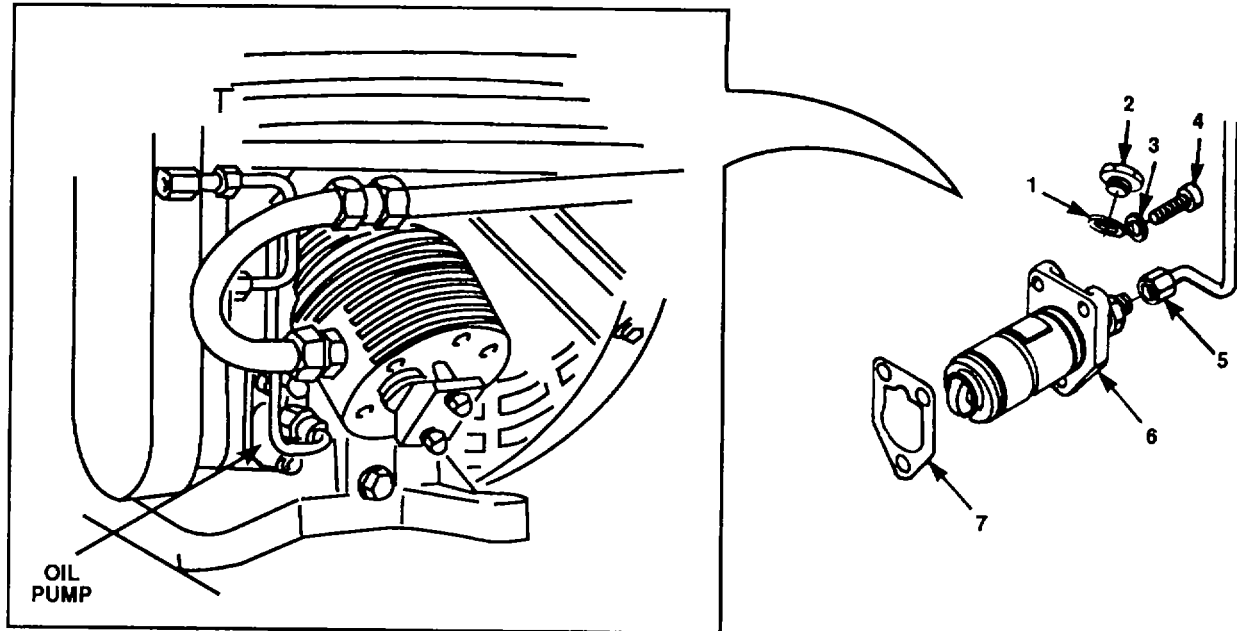

Figure 4-10. Lube Oil Pump
- a. Lube oil pump. (Figure 4-10).
1. Loosen tube connection (5) to separate oil supply tube from lube oil pump (6).
2. Place suitable oil catch container beneath oil supply tube. Remove allen screws (4) and washers (3) that secure oil pump to compressor.